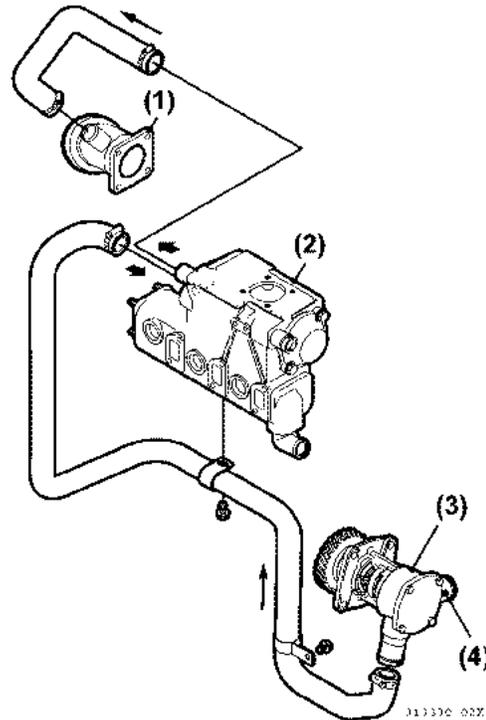

Figure 5-176
• For 3JH5E, install the seawater pipes with the hose clips (**Figure 5-176**).